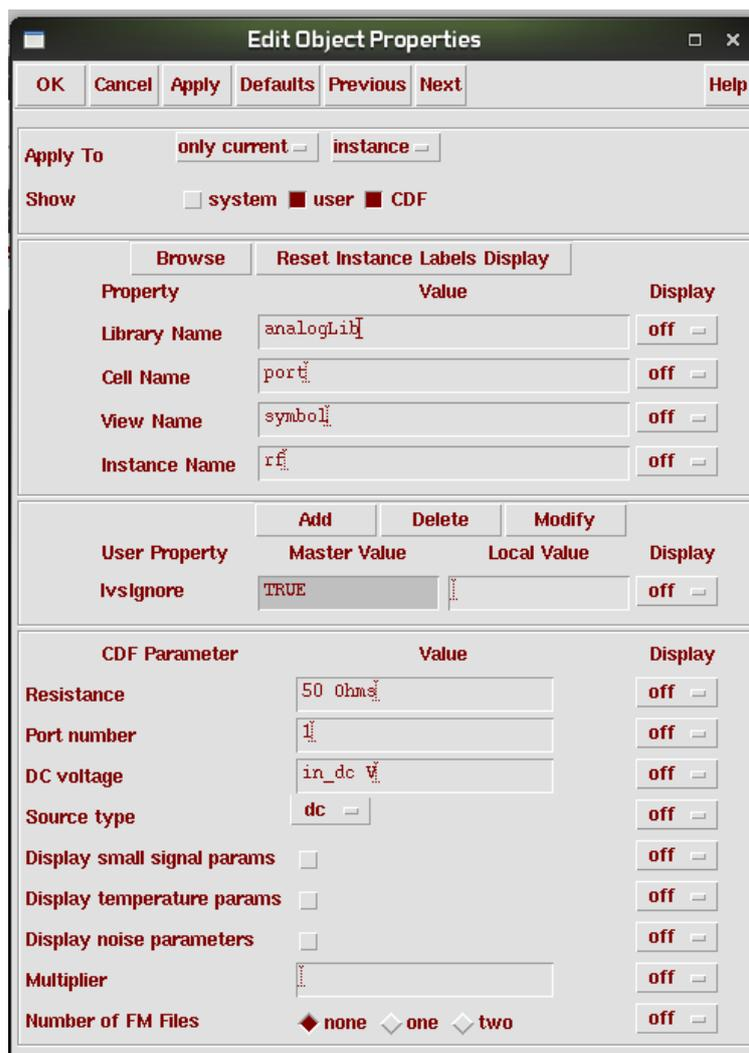

Figure 2.1: Input port setting
4. Setting of port **rf** (Refer Fig. 2.1) Resistance - 50 ohm Port number - 1 DC Voltage - input common mode level source type - dc